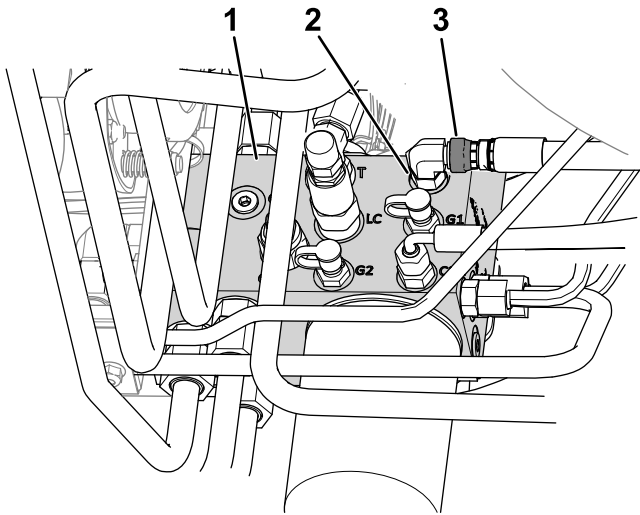

Figure 9
- B. Loosen the hose swivel nut connected to port C1 of the hydraulic manifold (Figure 9).